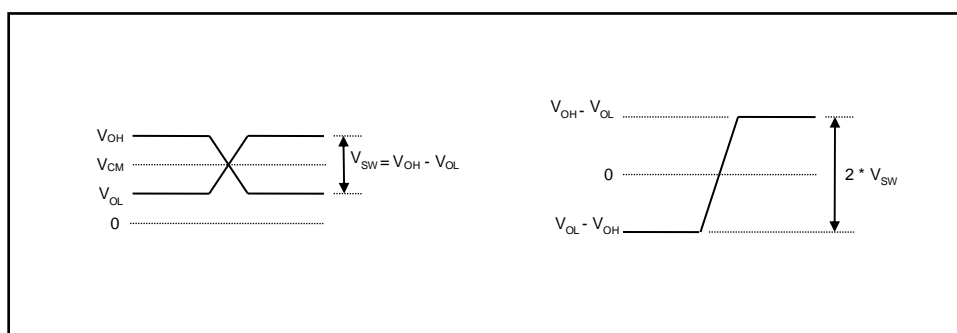

Figure 45. Differential Output Voltage Levels
**Output differential swing is calculated as $V_{SW} = V_{OH} - V_{OL}$. It should not be confused with $V_{SW} = 2 * (V_{OH} - V_{OL})$ used in some datasheets. Please refer to Figure 45.